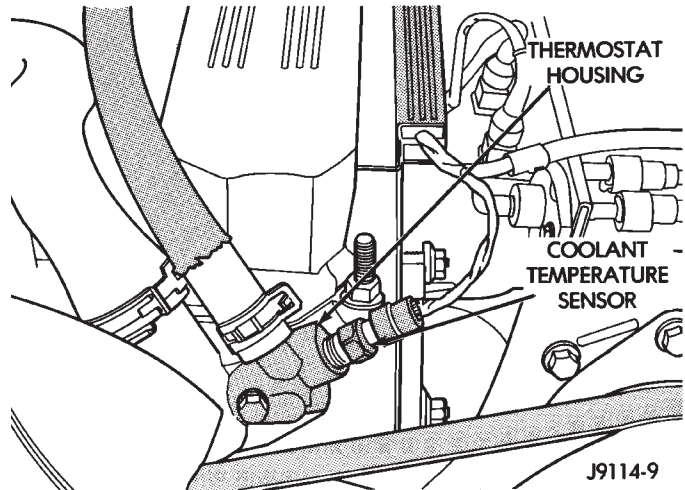

Fig. 10 Coolant Temperature Sensor—4.0L Engine
The sensor is installed in the thermostat housing (Fig. 10) on 4.0L engines.
- (1) Drain cooling system until the coolant level is below the cylinder head. For cooling system draining, refer to Group 7, Cooling.
- (2) Disconnect the coolant temperature sensor wire connector.
- (3) Remove the sensor from the thermostat housing (Fig. 10).